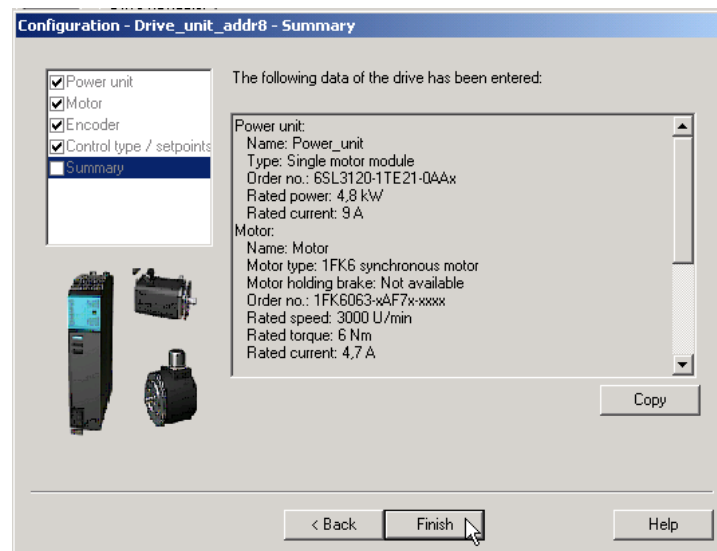

Fig. 5-16 Summary
7. Choose **Continue** > and work through the Wizard until the summary is displayed (see Fig. 5-16).